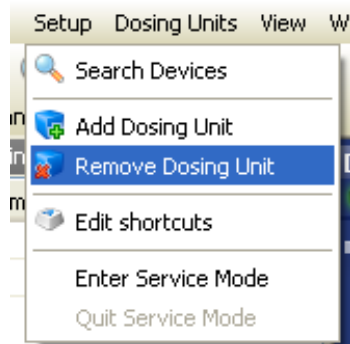

Figure 11 - Remove Dosing Unit Menu Item
- (1) In the *Setup* menu, select the *Remove Dosing Units* (Figure 11) menu item, to remove a dosing unit from the dosing platform. A dialog will appear - follow the instructions step by step: